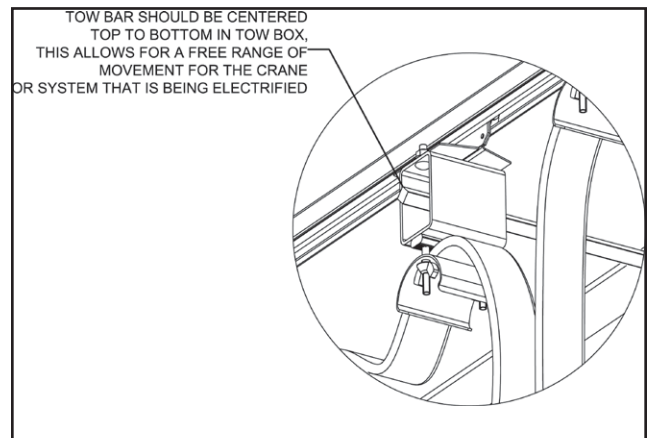

Figure 9-2
1. Place the Tow Trolley / Control Box Trolley into C-Track the same as the Cable Trolley's cross-arm support. See **Figure 9-2**.